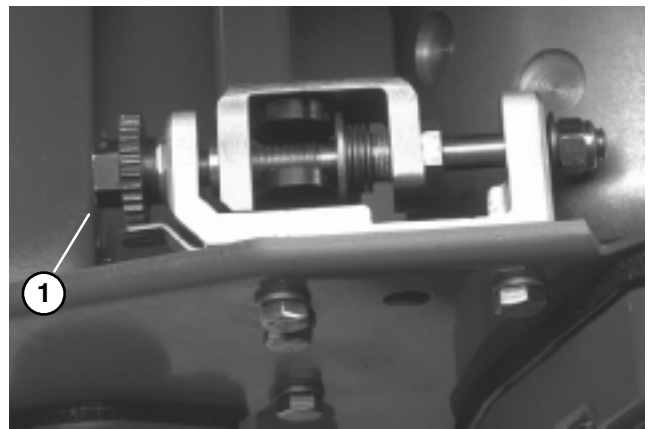
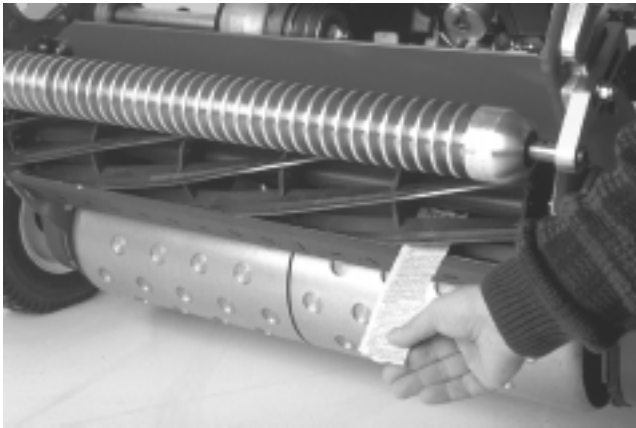

Figure 9
Figure 10
1. Position machine on a flat, level work surface. Make sure reel contact is removed by turning bedbar adjusting screws counterclockwise (Fig. 9).
3. On one end of front side of reel, insert a long strip of newspaper between reel and bedknife (Fig. 10). While slowly rotating reel forward, turn bedbar adjusting screw, clockwise (on same end of reel, one click at a time, until paper is pinched lightly, when inserted from the front, parallel to the bedknife, which results in a slight drag when paper is pulled (Fig. 9).
5. After adjustment is accomplished, check to see if reel can pinch paper when inserted from the front and cut paper when inserted at a right angle to the bedknife (Fig. 10). It should be possible to cut paper with minimum contact between the bedknife and the reel blades. Should excessive reel drag be evident (more than 7 inch pounds) it will be either necessary to backlap or re-grind the cutting unit to achieve the sharp edges needed for precision cutting (see Toro reel sharpening manual).